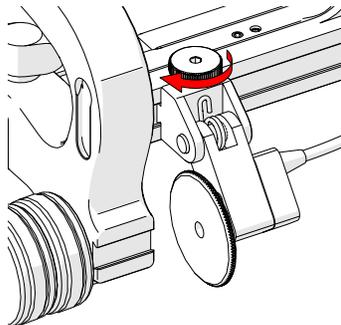

Fig. 40 - Tighten knob
2. Tighten the encoder's knob (Fig. 40).